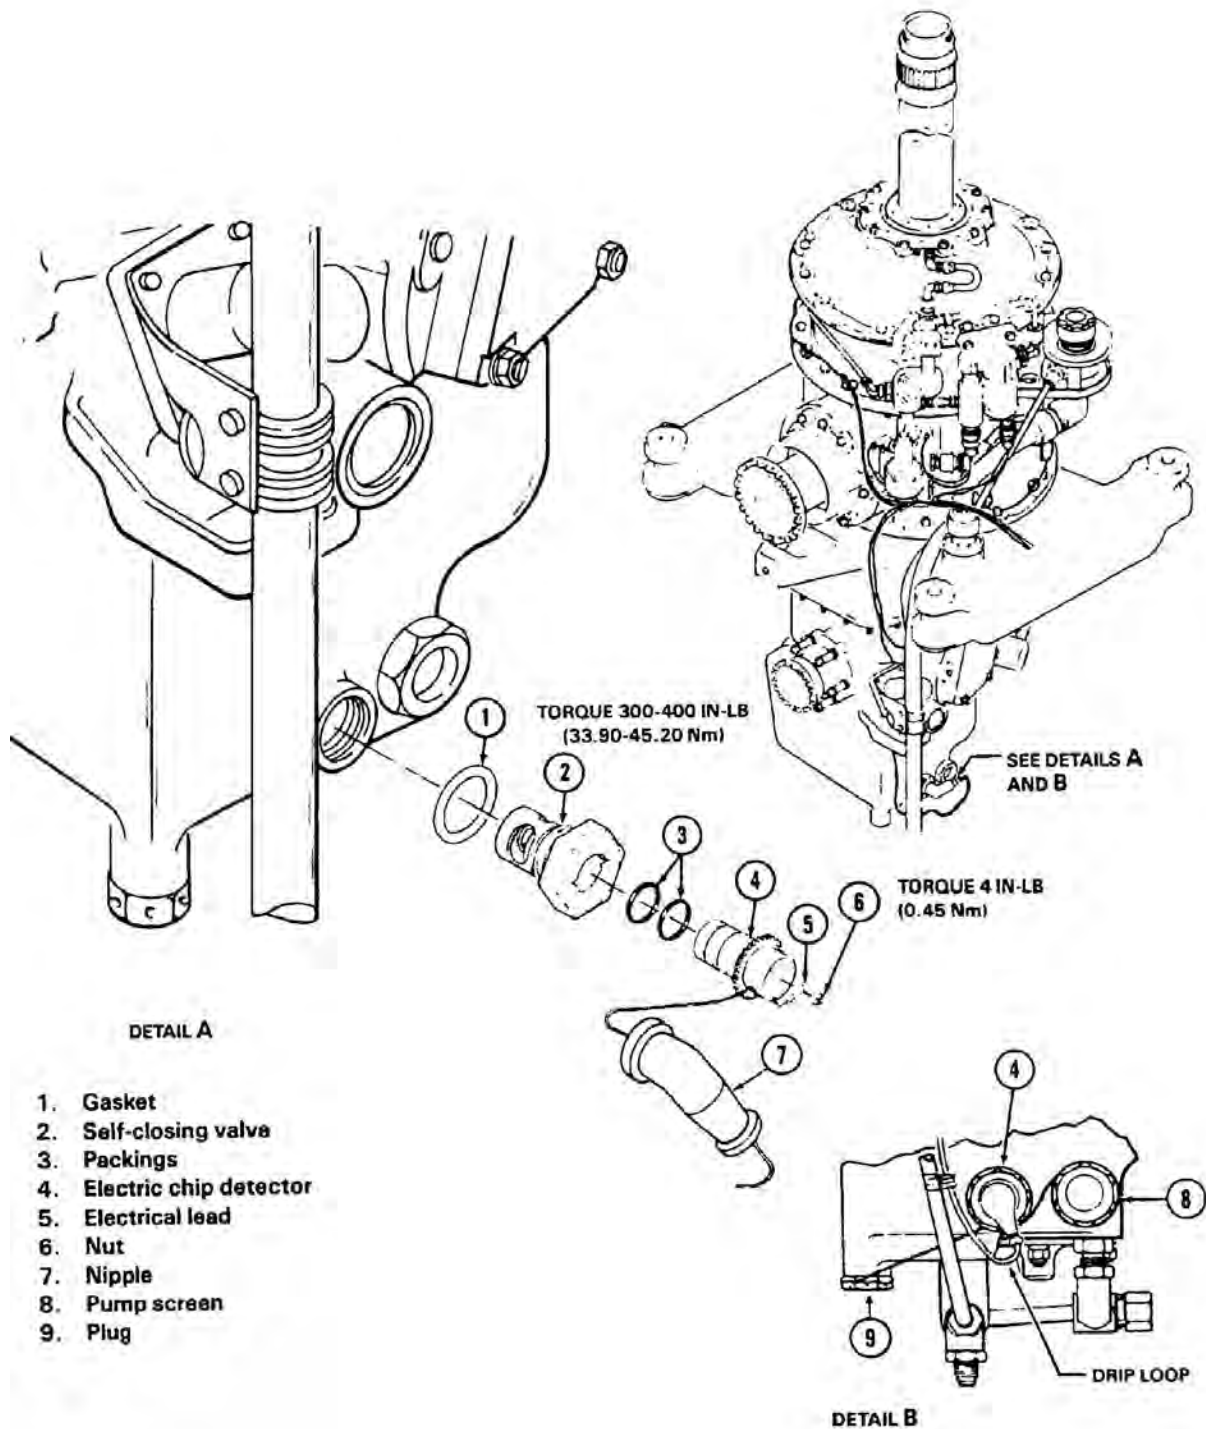

Figure 63-19. Sump Case Electric Chip Detector
All transmissions have an electric chip detector/drain plug located in the transmission sump case at lower right side (Figure 63-19). The outer plug is self-closing to prevent loss of oil when the bayonet-type detector element is removed. The electric chip detector is installed to detect metal particles which collect in sump.
63.5.6.1.2 Disconnect electrical lead (5, Figure 63-19) from electric chip detector (4).
63.5.6.3.1 Inspect chip detector (4, Figure 63-19) for presence of metal particles. If any particles are found, refer to paragraph 63.1.2 for required action.
If drain plug was removed, reinstall with a new gasket (1). Torque valve 300 to 400 inch-lbs (33.90 to 45.20 Nm) and secure to head of pump screen and plug with lockwire (C-405). Refer to Figure 63-19, detail B.
63.5.6.4.1 Place new packings (3, Figure 63-19) on chip detector (4), insert chip detector into self-closing valve (2), press in on knurled body, and turn clockwise to engage bayonet pins. Connect electrical lead (5) to chip detector terminal.